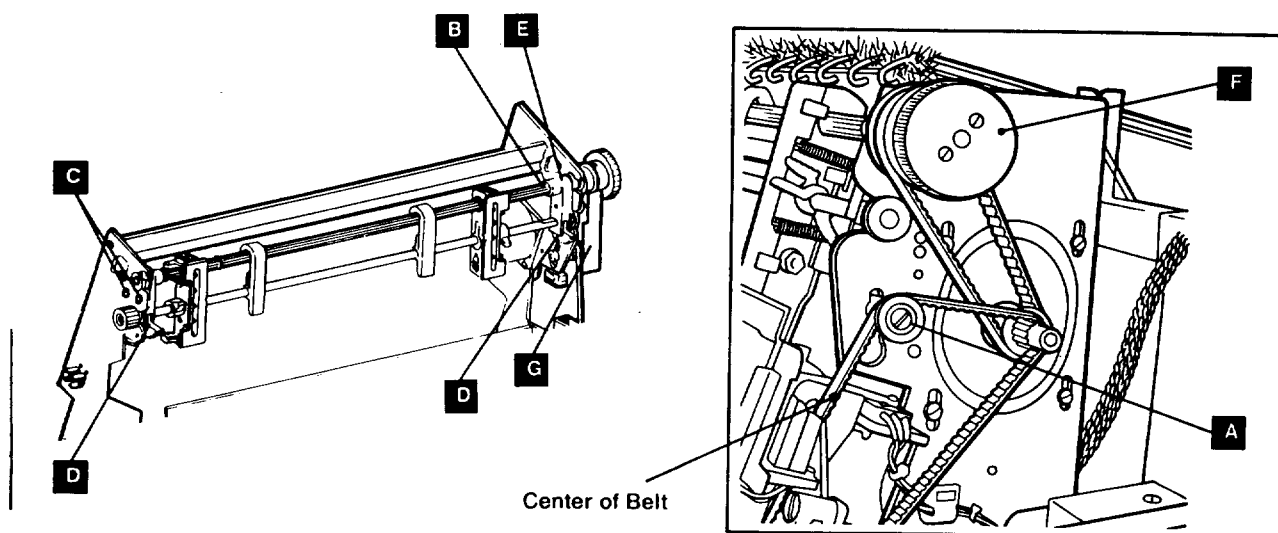

Figure 20. Tractor Assembly
See Figure 20.
3. Press both latch levers **D** up and pivot the tractor assembly toward the front of the printer (Figure 20).